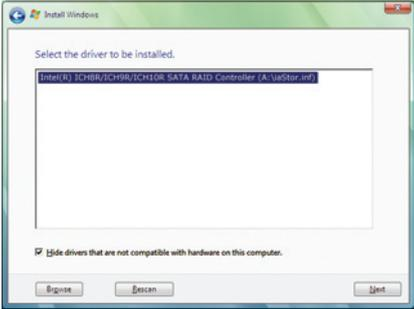

Figure 6
When a screen as shown in Figure 6 appears, select **Intel(R) ICH8R/ICH9R/ICH10R/DO SATA RAID Controller (A-1a82for .inf)** and click **Next**.